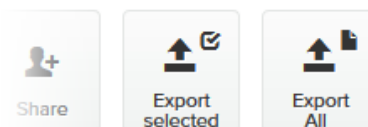

Figure 72. Plug-ins web page (code export controls)
4. To export only selected Activation codes, check the selection check-boxes to the left of each plug-in that must be included in the *.CSV file, then click the **Export selected** button. Alternatively, export all Activation codes by clicking the **Export All** button (Figure 72 (page 151)).